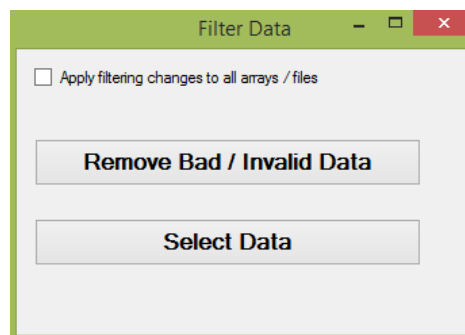

Figure B- 6: 'Filter Data' window providing choices for how to filter raw sample data from the CS Data Logger files.
- The window shown in **Figure B-6** will then appear.